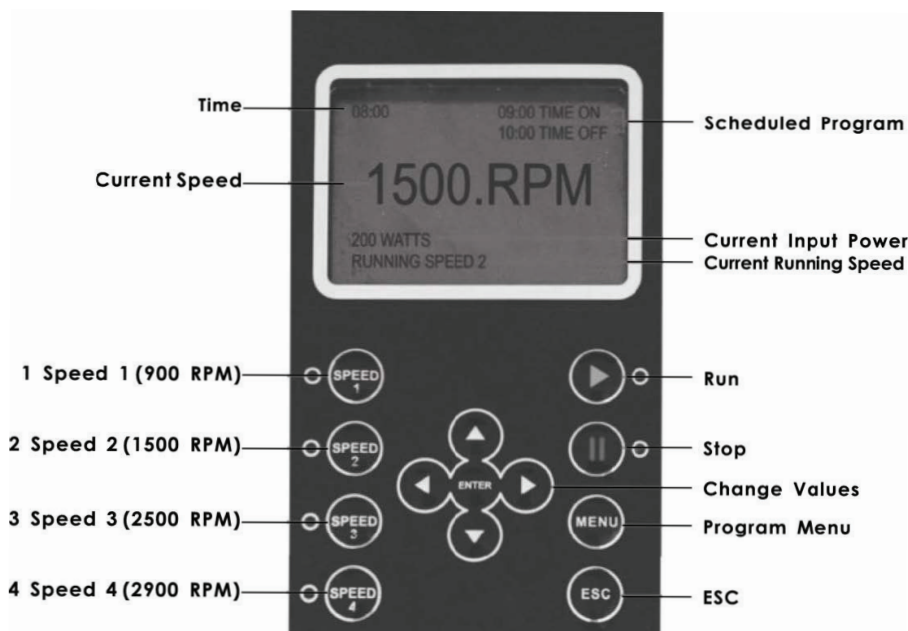

FIGURE 5
4. Be sure the control panel display is active and press the "Run" button to begin priming. See Figure 5.